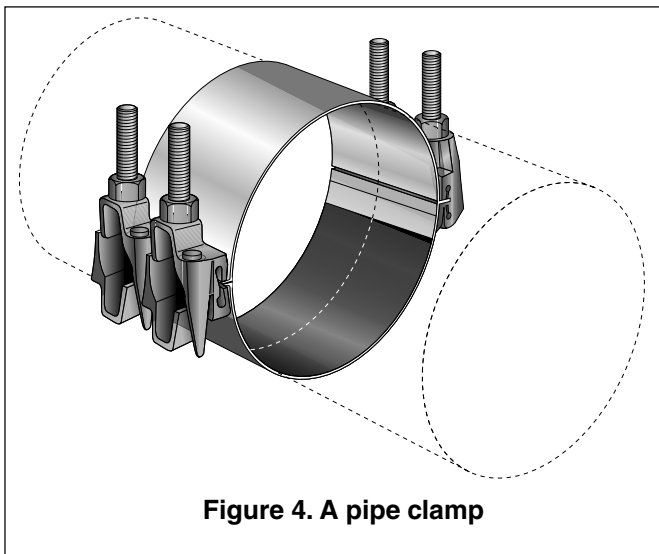

Figure 4. A pipe clamp
- The damaged section may be replaced by use of repair pipe clamps, as shown in Figure 4.